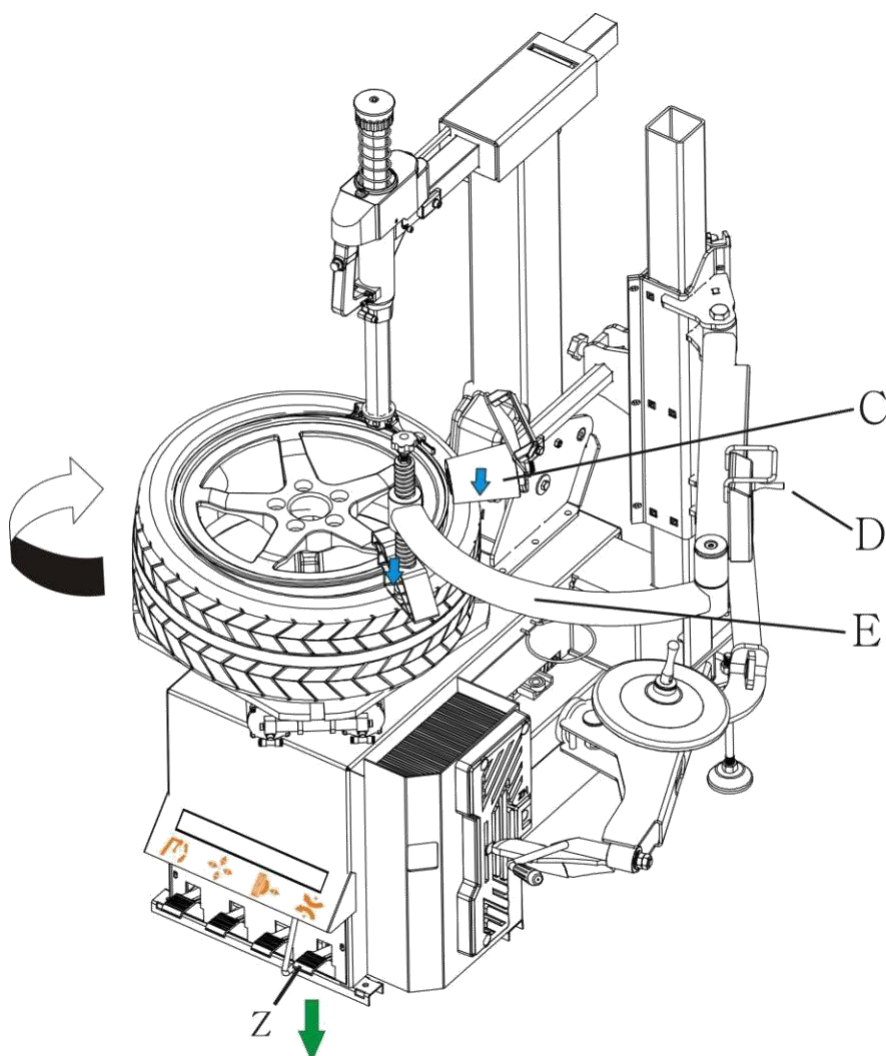

Fig.13
Turn switch handle D upward to raise help arm, pull pressing roller C on the tire; turn pressing head E to the position as Fig.13. Turn switch handle D downward and help arm goes down, press roller press tire under mounting head, to protect tire bead, mounting head at the same time press tire bead below the rim as Fig.13.
Press pedal Z to turn the turntable together with tire pressing head, mount upper bead with the help of mounting head as Fig.13.
**NOTE : Stop operation if stuck occurred, to protect tire, lift pedal Z, turntable will go backward. Adjust pressing roller and pressing head, operate as Fig.13 again.**